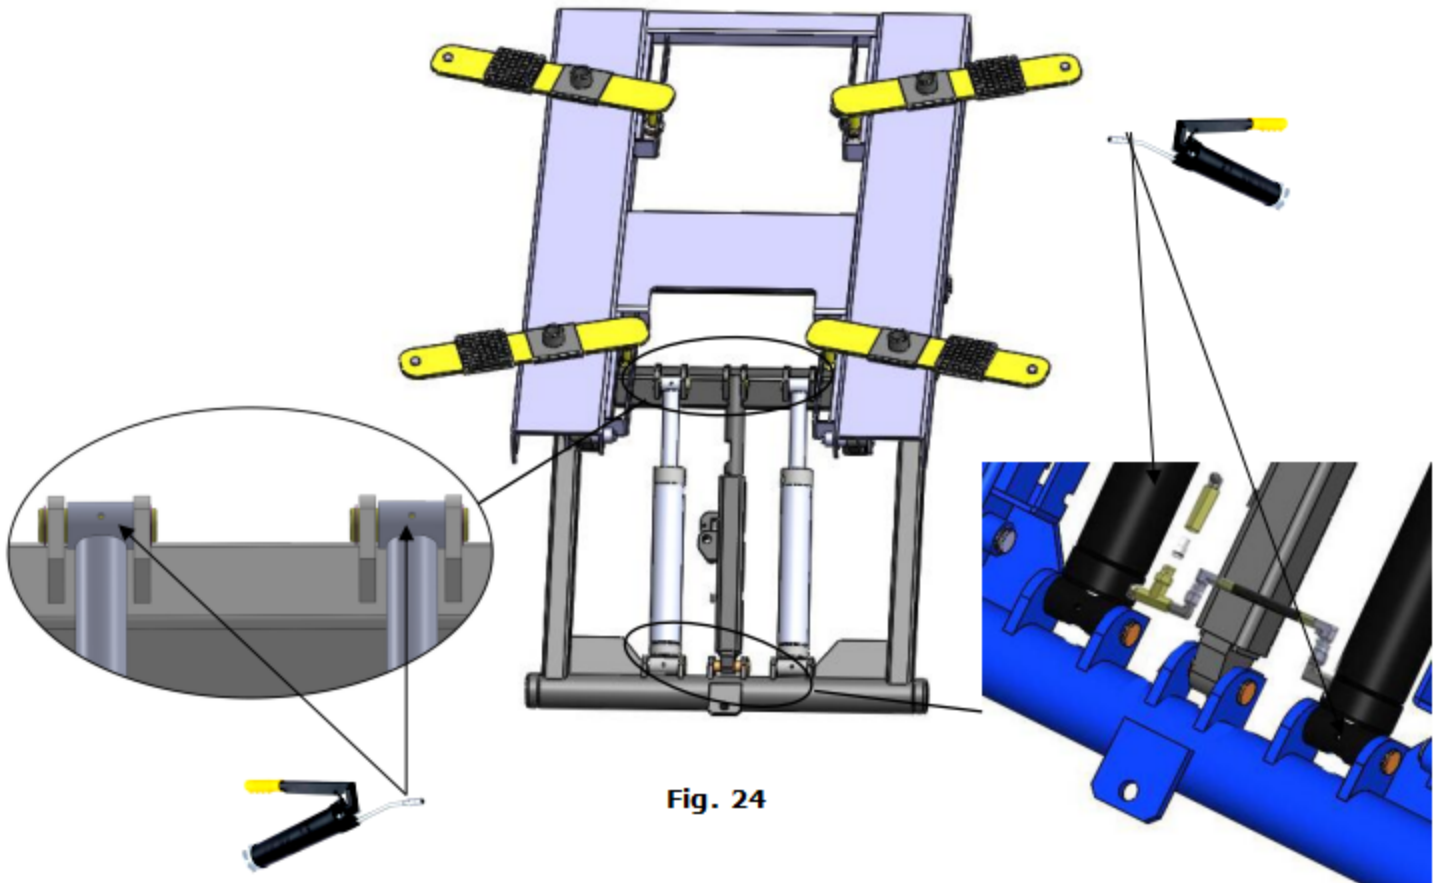

**Fig. 23**
4. Move the lift with the power unit stand (See Fig. 23)